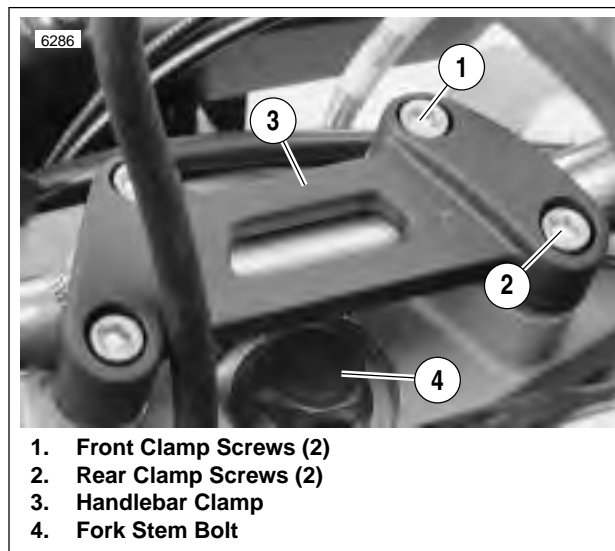

Figure 2-57. Loosening Handlebars
2. See Figure 2-57. Loosen handlebars.
- b. Remove both front clamp screws (1).
- c. Remove both rear clamp screws (2) and handlebar clamp (3).
4. Slowly loosen fork stem bolt (4) until forks drop 0.5 in. (12.7 mm) in triple clamps.
2. See Figure 2-57. Tighten fork stem bolt and triple clamp screws. Check bearing adjustment. See 2.17 FORK STEM AND BRACKET ASSEMBLY.